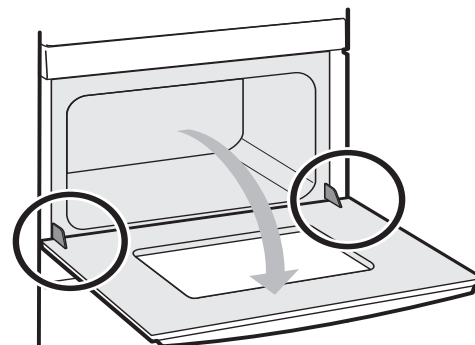

Figure 37: Door at horizontal position
3. Fully open the oven door, horizontal with floor (Figure 37).